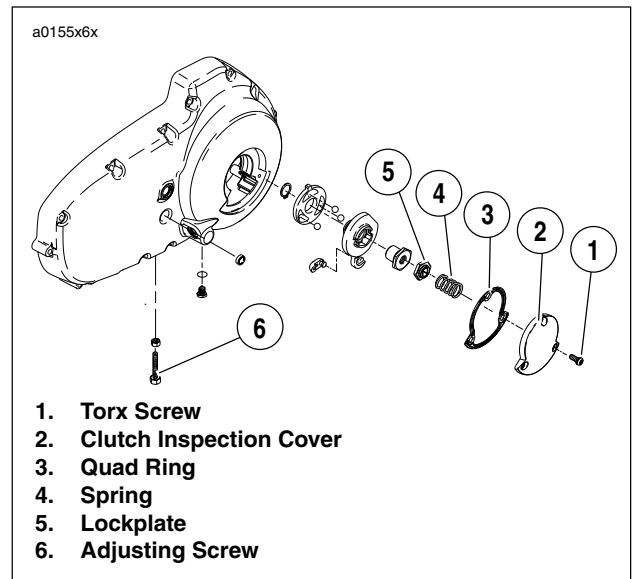

Figure 6-14. Clutch Release Mechanism
4. See Figure 6-14. Remove three TORX screws with washers (1) from clutch inspection cover (2). Remove clutch inspection cover from primary cover.
Quad ring removed from primary cover for illustrative purposes only in Figure 6-14.
9. See Figure 6-14. Install clutch inspection cover and **new** gasket with three TORX screws with washers. Tighten in a crosswise pattern to 7-9 ft-lbs (10-12 Nm).